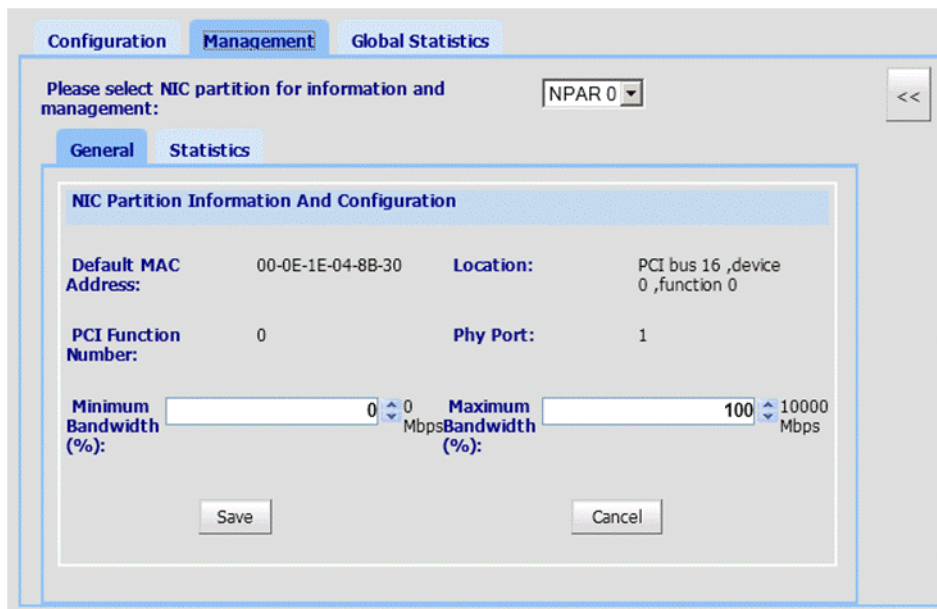

Figure 2-31. NIC Partitioning—General Management Page
3. Select the **NIC Partitioning** tab, and then click the **Management** sub-tab. The NIC Partitioning Management General page displays configuration details that apply to the selected NPAR (Figure 2-31).